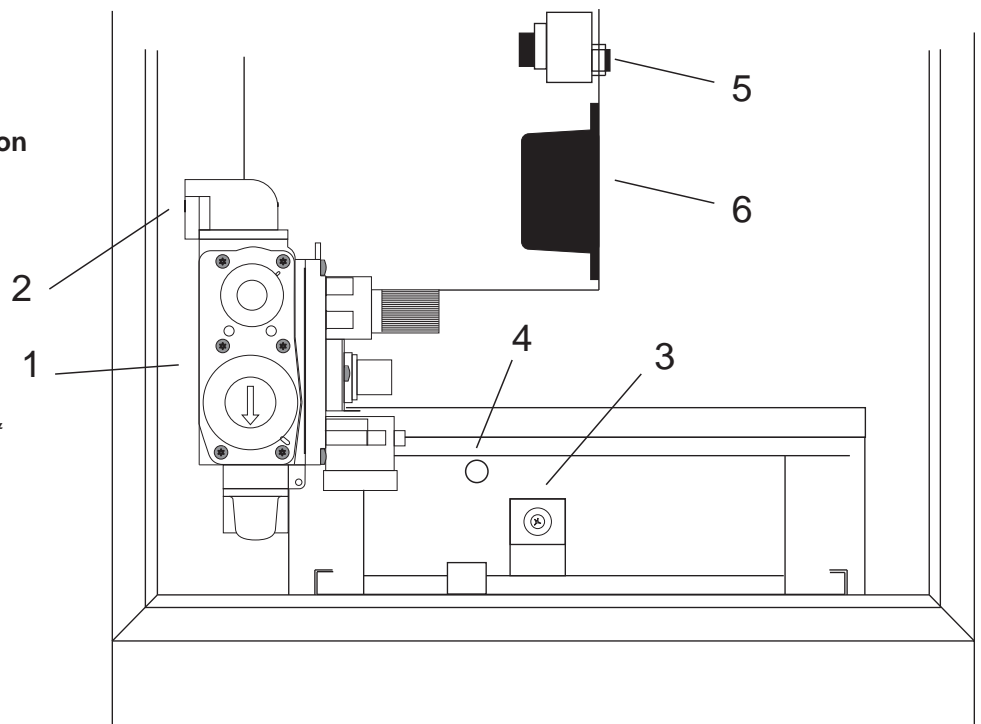
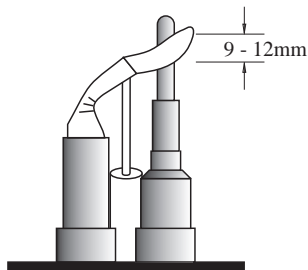

Fig.2 Pilot Flame Adjustment
Fig. 3a - SIT 820 Nova
- Press the knob of the multifunctional control (Fig.3a - 1) and rotate to Pilot.
4. Ensure that the pilot flame fully envelopes 9-12mm of the thermocouple tip (See Fig. 2) and, if necessary adjust the pilot regulating screw (Fig.3a - 3) .
3. If necessary adjust the burner gas pressure by removing the cover screw (Fig 3a -2, Fig 3b - 1) and turning the regulator screw anticlockwise to decrease the pressure, or clockwise to increase the burner pressure.
2. Remove the plug (Fig 3a - 8), or push on connections (Fig 3b - 2 & 5), from the multifunctional valve.